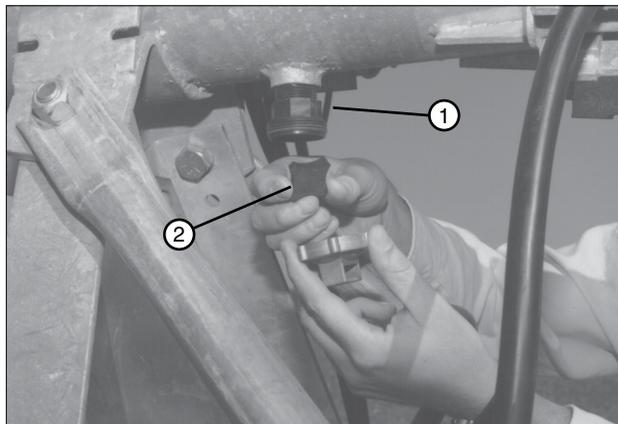

Figure 48-1 1. Pipe Drain
2. Remove the pipe drains at each tower and clean sand and foreign particles from these drains. Turn the rubber drain seal over when reinstalling. See figure 48-1.